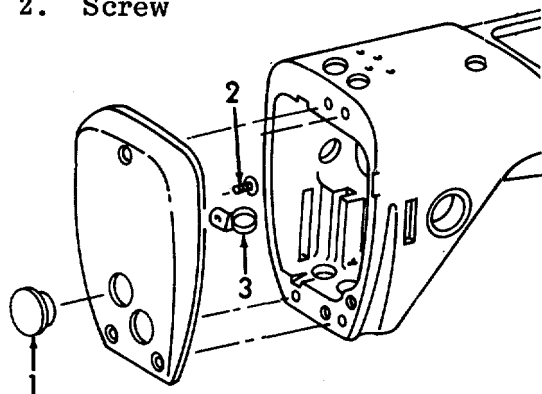

Figure 6-29. Face Plate, Disassembly.
b. Disassembly (Refer to Figure 6-29).